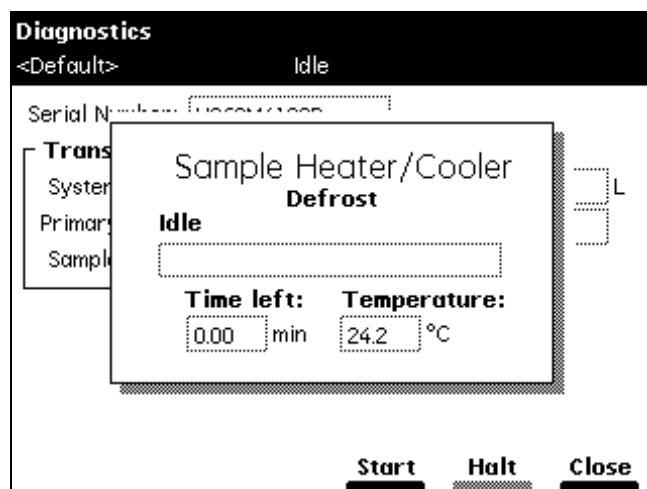

Figure 8-13 Sample Heater/Cooler Defrost Dialog Box
1. Select **Defrost** in the Other Diagnostics drop-down list, then press **OK**. The Sample Heater/Cooler Defrost screen appears (Figure 8-13).